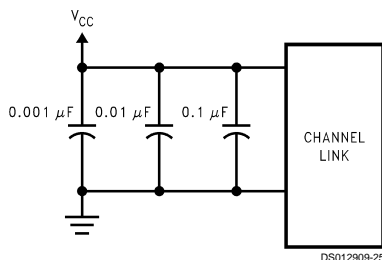

FIGURE 20. CHANNEL LINK Decoupling Configuration
**DECOUPLING CAPACITORS:** Bypassing capacitors are needed to reduce the impact of switching noise which could limit performance. For a conservative approach three parallel-connected decoupling capacitors (Multi-Layered Ceramic type in surface mount form factor) between each  $V_{CC}$  and the ground plane(s) are recommended. The three capacitor values are 0.1  $\mu\text{F}$ , 0.01  $\mu\text{F}$  and 0.001  $\mu\text{F}$ . An example is shown in Figure 20. The designer should employ wide traces for power and ground and ensure each capacitor has its own via to the ground plane. If board space is limiting the number of bypass capacitors, the PLL  $V_{CC}$  should receive the most filtering/bypassing. Next would be the LVDS  $V_{CC}$  pins and finally the logic  $V_{CC}$  pins.